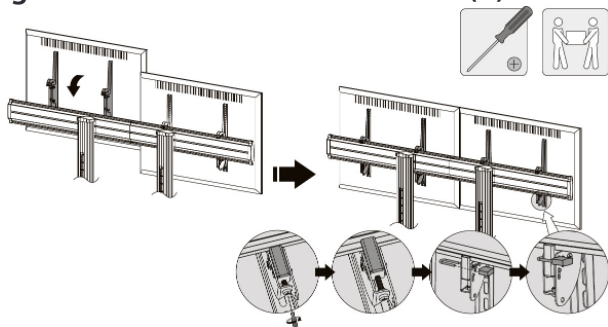

Figure 13
**Warning!** Ensure the **TVs** are correctly mounted onto the **Universal Plates (C)** and the locking mechanisms are properly engaged before releasing the displays.
1. Select the first **TV** to be mounted and loosen the 2 **Screws**, located at the bottom of the **TV Mounting Brackets (G+H)**, using a **Phillips Head Screwdriver**. (Figure 13)
**Note:** Loosening the **Screws** lowers the locking mechanisms, located on the **TV Mounting Brackets (G+H)**. Ensure the **Screws** have been loosened enough for the **TV Mounting Brackets (G+H)** to be attached to the **Universal Plates (C)**.
2. With two people, lift and hang the **TV** onto the **Universal Plates (C)**.
**Note:** Ensure the hooks on the **TV Mounting Brackets (G+H)** are hung over the top edge of the **Universal Plates (C)**.